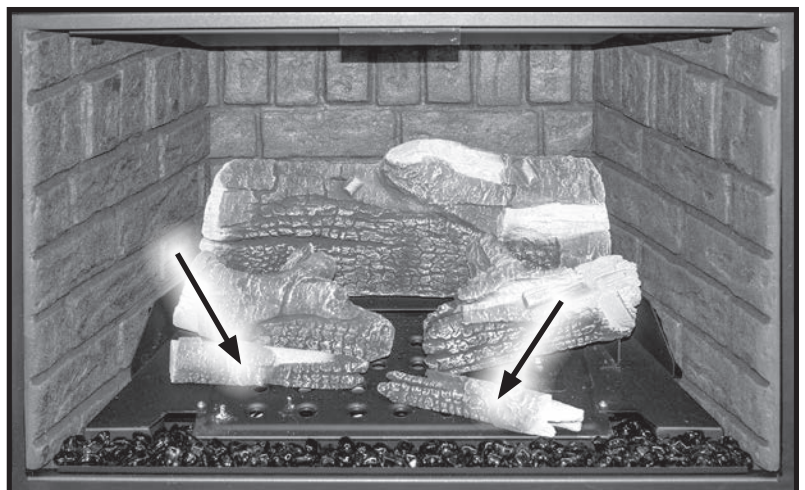

Figure 50. Front Ember Logs.
4. Next, Install the front two flat bottommed logs on the burner, as shown in Figure 50. Both logs have two drilled holes on the bottom that sit on the matching burner pins.